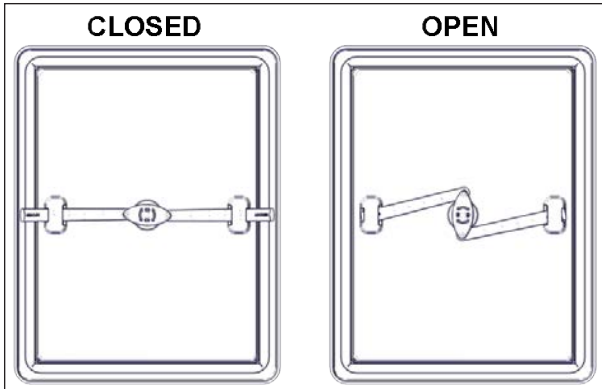

FIGURE 25: ESCAPE HATCH LOCKING MECHANISM
4. On the escape hatch, check if the release mechanism is working well. Make sure that the hatch arms are retracted when open and non-retracted when closed, see Figure 25.